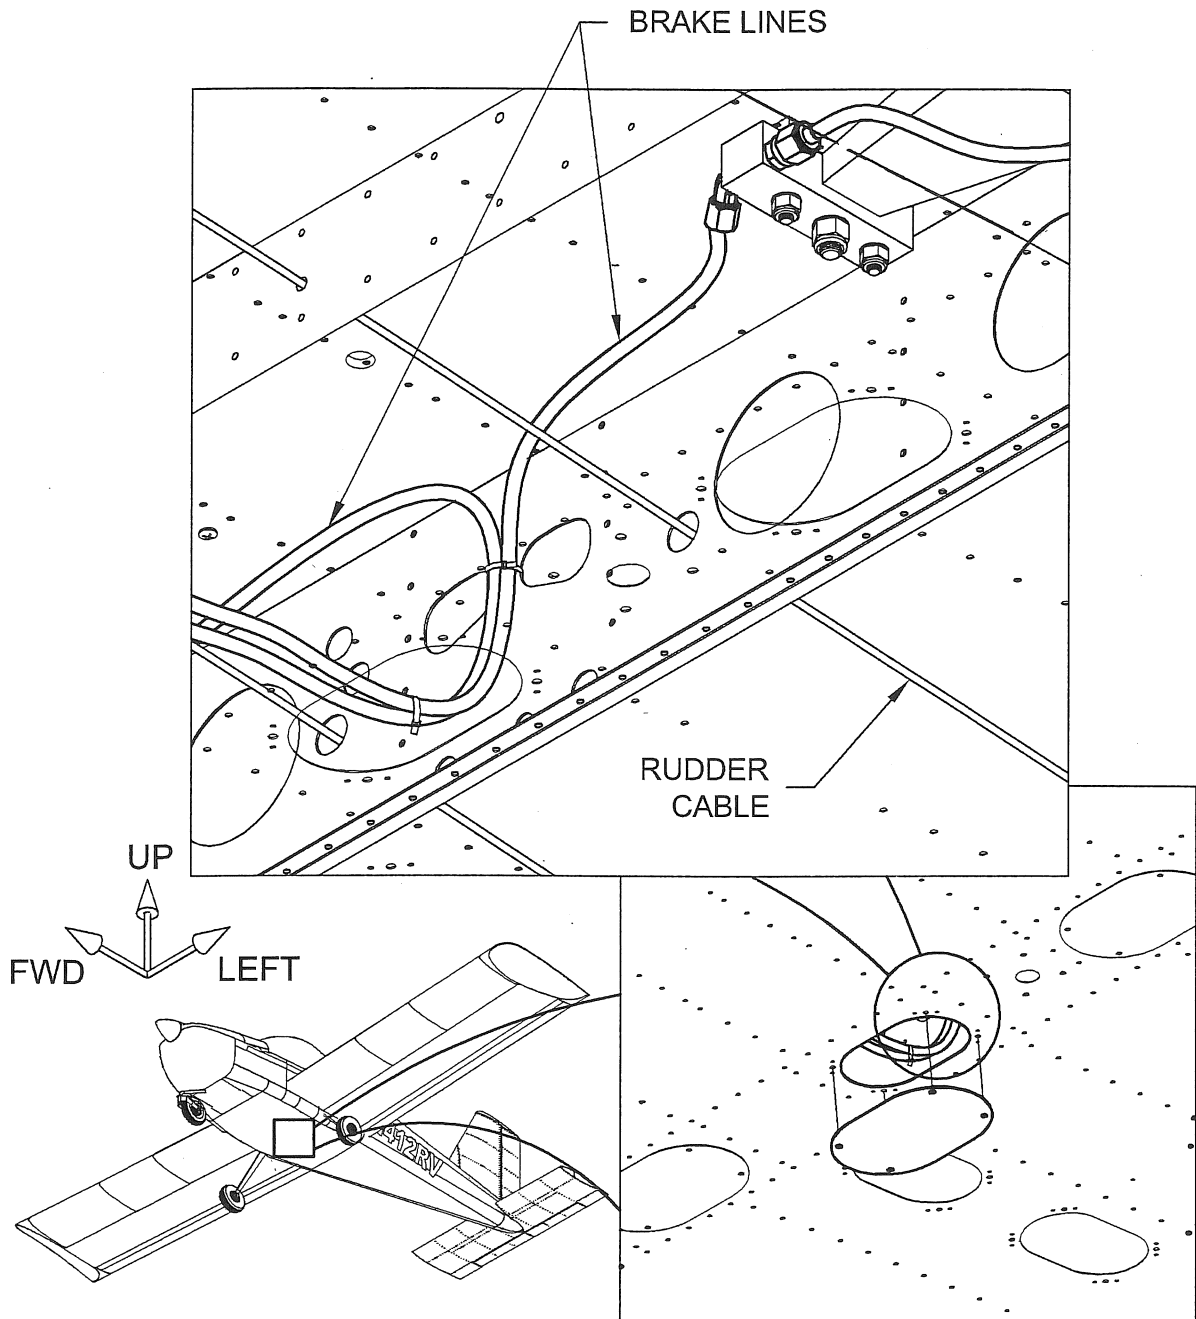

FIGURE 1: CORRECT BRAKE LINE ROUTING
Step 1: Remove cover plate(s) as required to view the position of the main brake lines relative to the rudder cables. See Figure 1.